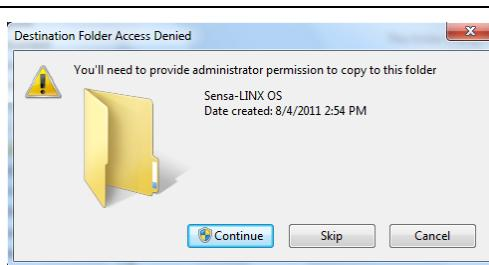

Figure 3      Destination Folder Access Denied Dialog
2. Administrator privileges are required to copy a file into the folder. If you are logged in as a user, you will see the dialog shown in Figure 3 and will be required to enter in the Administrator password to copy the file into this directory.